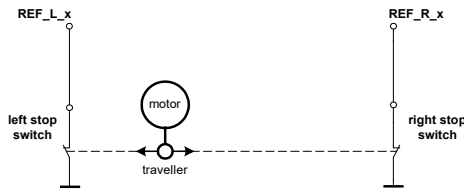
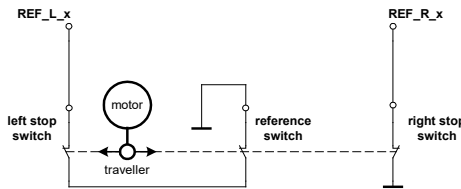

Figure 9.1: Two limit switches
Figure 9.2: Limit switch with extra reference switch
- In figure 9.1 the connection of the left and the right limit switch is shown. Figure 9.2 shows the connection of three switches as left and right limit switch and a reference switch for the reference point. The reference switch is connected in series with the left limit switch. The differentiation between the left limit switch and the reference switch is made through software. Switches with open contacts (normally closed) are used.